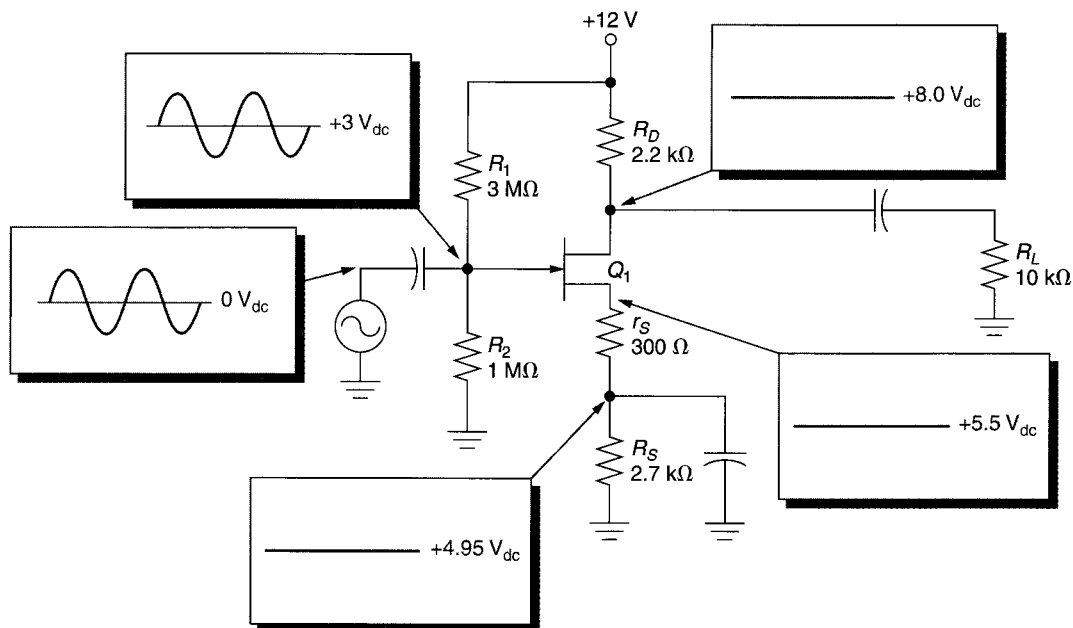

FIGURE 12.72
45. The circuit shown in Figure 12.72 has the waveforms shown. Discuss the possible causes of the problem.